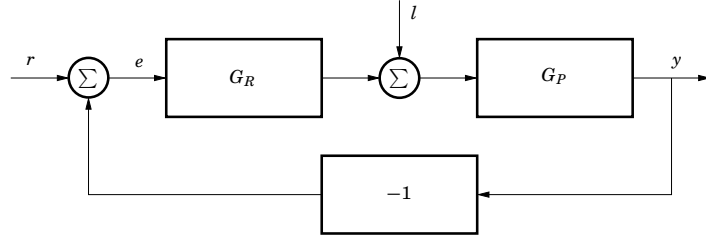

Figure 6: Block diagram for problem 5
5. Consider the feedback system in Figure 6, which is subjected to the load disturbance l .